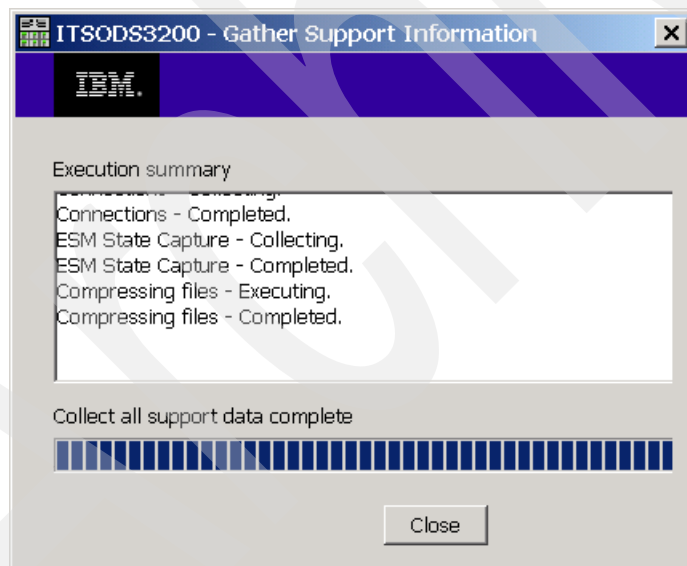

Figure 14-6 Gather Support Information - Complete
4. When the collection is done, click **Close** (Figure 14-6). The zip file will be generated, which you can send when requested.